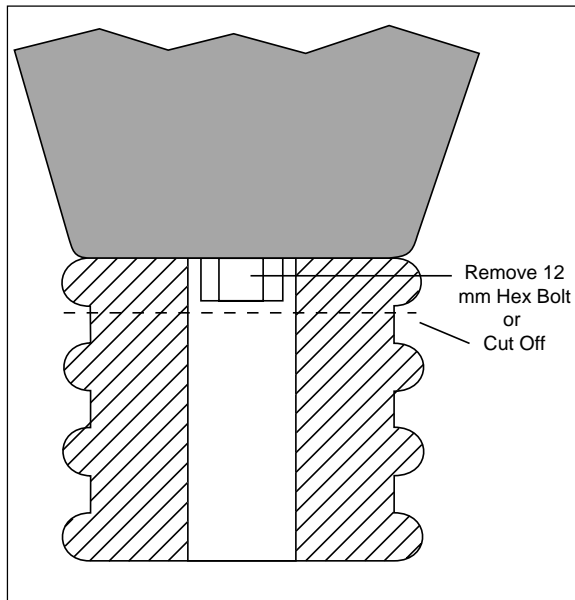

Figure 1
3. Cut off the exposed portion of the rubber jounce bumper (Figure 1).